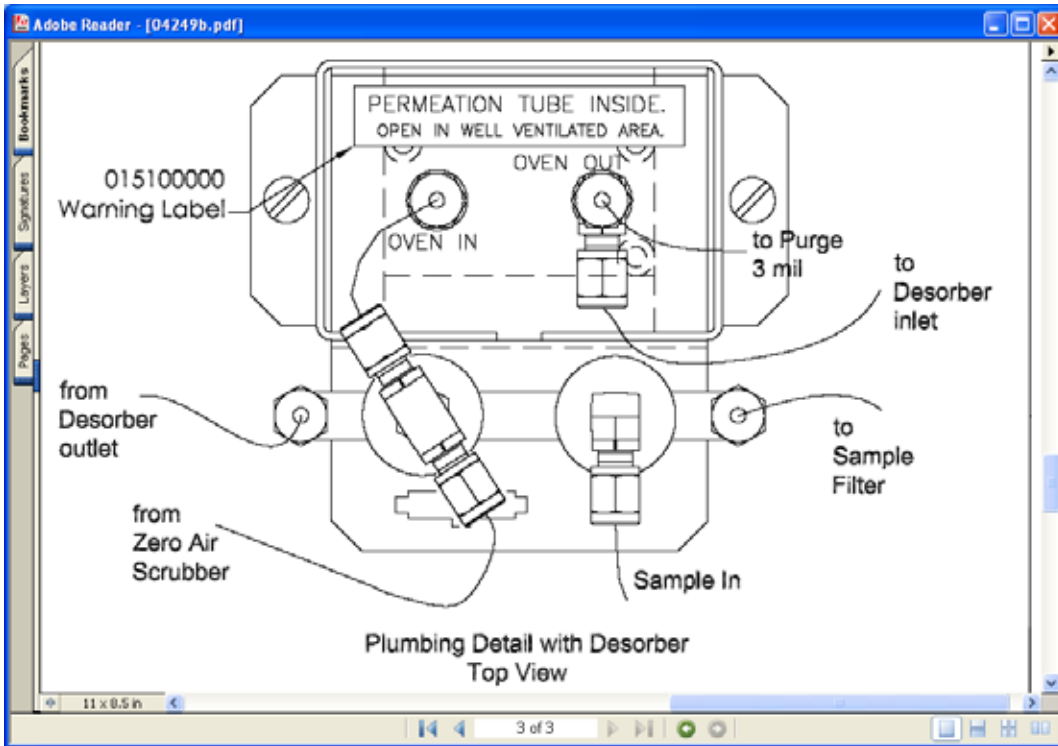
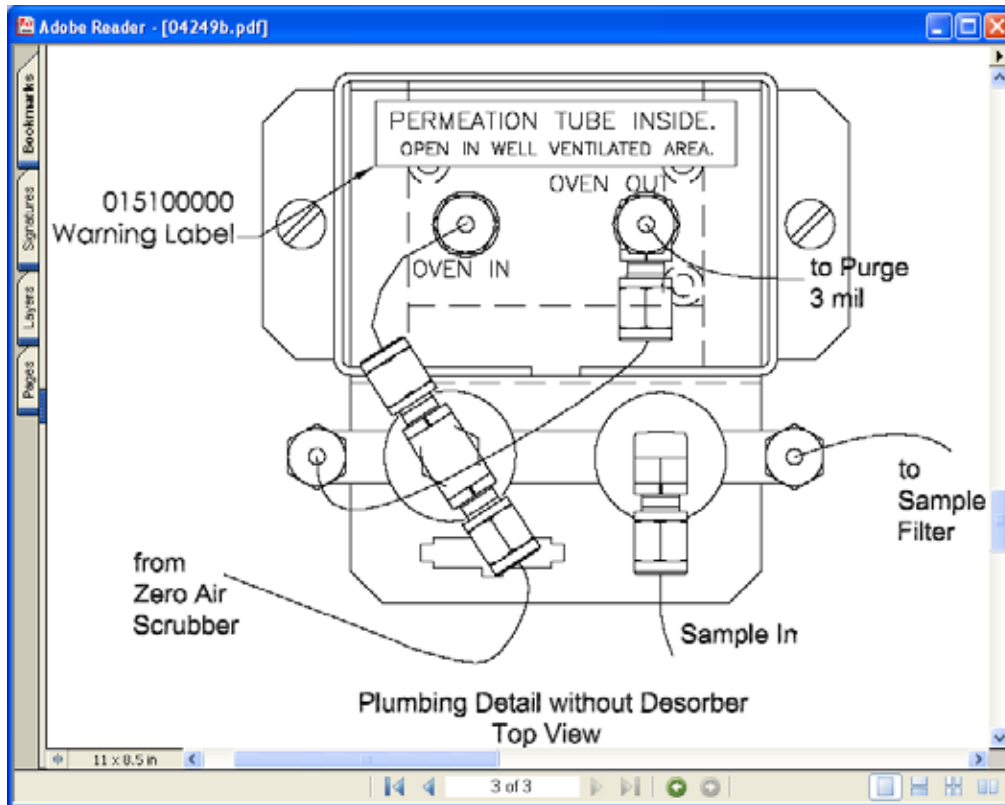

Figure 11 (Retrofit for NO2 holdup configuration)
Figure 12 (original configuration)
32. Reattach tubing that connects the perm tube purge orifice on the vacuum manifold to the end fitting of the new “T” on the oven outlet fitting, refer to Figure 11 and Figure 12.